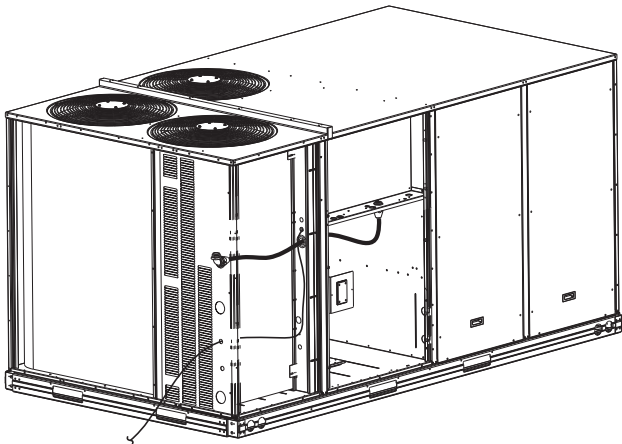

Fig. 36 — Thermostat Wire Routing
Pass the thermostat control wires through the bushing on the unit end panel. Route the wire through the snap-in wire tie and up to the web bushing near the control box. Route the wire through the bushing and into the bottom left side of the control box after removing one of the two knockouts in the corner of the box. Using a connector at the control box to protect the wire as it passes into the control box. Pull the wires over to the terminal strip at the upper left corner of the Central Terminal Board (CTB). Use the connector at the control box and the wire tie to take up any slack in the thermostat wire to ensure that it will not be damaged by contact with the condenser coil. See Fig. 36.
1. Route the humidistat 2-conductor cable (field-supplied) through the bushing in the unit's louvered end panel (see Fig. 36).
4. Use the connector and the wire tie to reduce any slack in the humidistat cable to ensure that it will not be damaged by contact with the condenser coil (see Fig. 36).